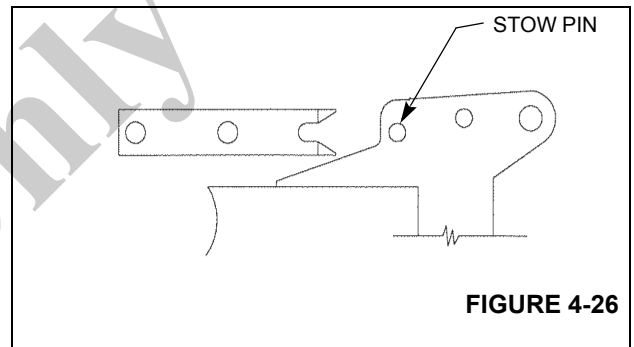

FIGURE 4-26
7. Observe the horizontal alignment of the slot in the ear assemblies and the stow pin in the jib. Horizontal adjustment of the stow ears is provided by oversize bolt holes in the stow ear. Move the ears in or out to achieve proper alignment. Position the top ear so it holds the top of the jib in toward the boom and the bottom ear so that it holds the bottom of the jib away from the bottom of the boom, see Figure 4-26.